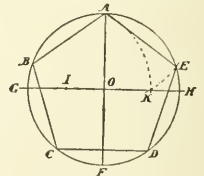

Fig. 620
25. To inscribe a pentagon in a given circle (Fig. 620).—Let ABCDE be the given circle. Draw diameters